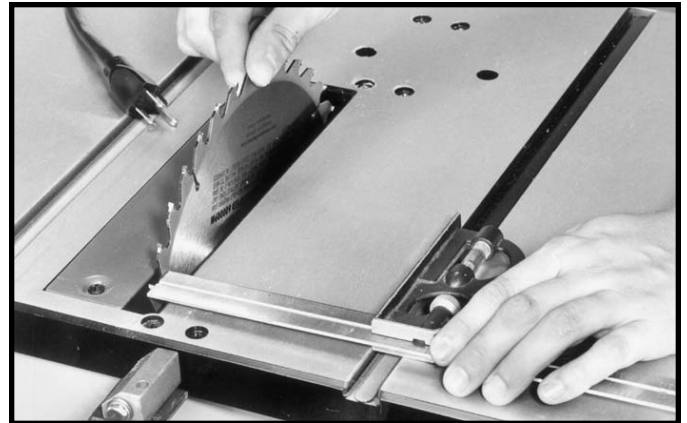

Fig. 51
5. Rotate the blade and check the same marked blade tooth at the rear of the saw table in the same manner, as shown in Fig. 51.